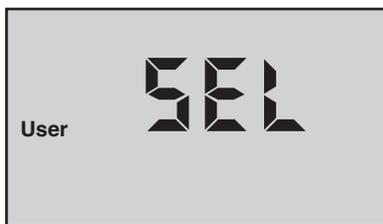

Figure 28
- Press  key. The instrument will display “SEL” and the “User” Icon (see Figure 28).